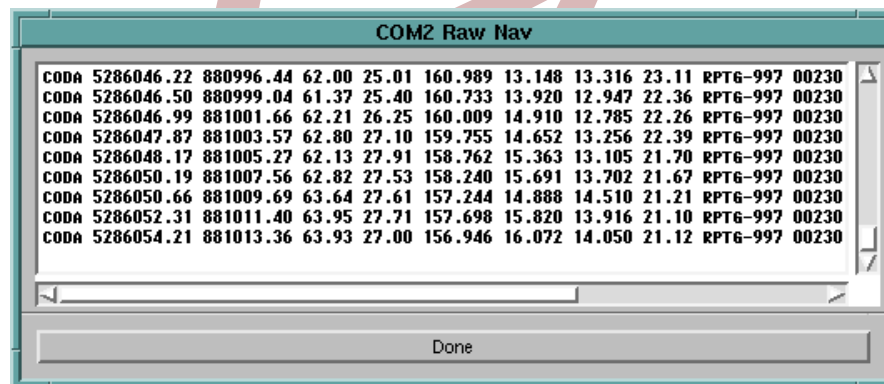

Figure 5-16 Display of Unformatted Serial Input, for Coda Navigation String
- Use the **Display Raw Nav String** option of the **File**→**Raw Nav Input**→**Nav String Decode** tab pop-up to ensure that you are receiving RS232 navigation data correctly and to confirm that its format is correct. This option pops up a window which displays the ASCII characters as they are read in from the selected serial input port, and before they are formatted by the system. Figure 5-16, this page, shows an example of the unformatted serial input for the Coda navigation string.